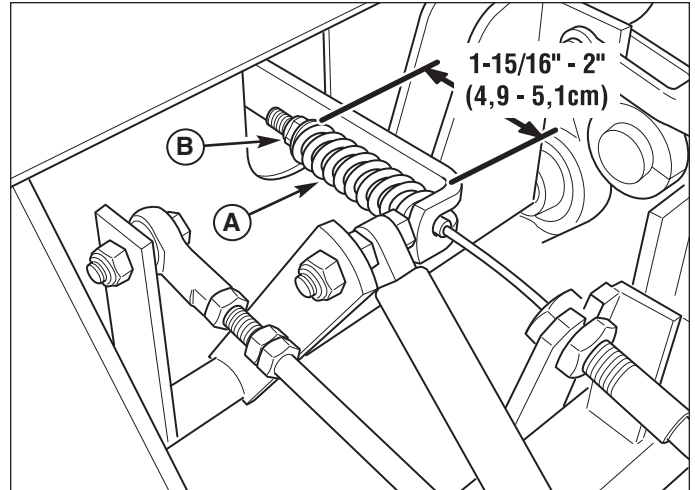

Figure 40. Parking Brake Adjustment
3. Locate the brake spring (A, Figure 40).
5. If the spring is not within this range, release the parking brake and turn the adjustment nut (B) to compress or release the spring.
4. Remove the upper shock mounting hardware and pivot the shock to the position #2 (see Figure 40. Adjust the jack to align the shock mounts to the shocks.